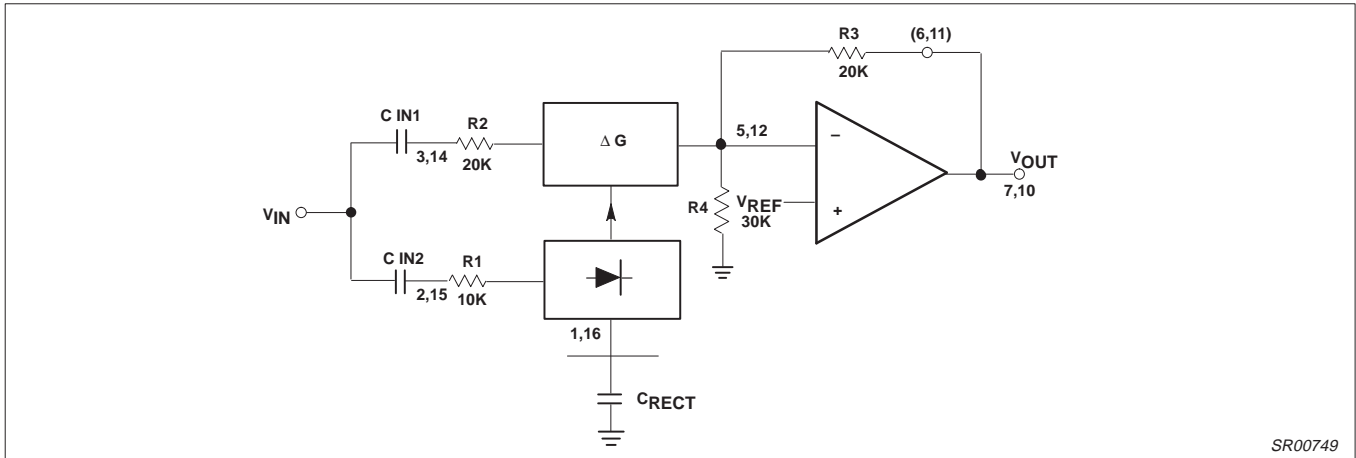

Figure 9. Basic Expander
1) DC bias the output halfway between the supply and ground to get maximum headroom. The circuit in Figure 9 is designed around a system supply of 6V so the output DC level should be 3V.